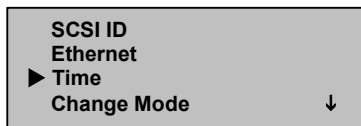

Figure 34: Select Time
3. On the Configuration submenu, scroll to Time. (See Figure 34.)